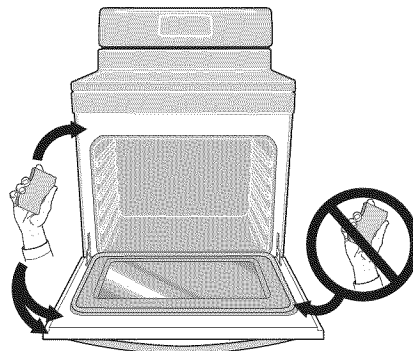

Fig. 14 Do not clean the oven door gasket
12. Wipe oven cavity and bottom. Do not clean oven door gasket (Fig. 14, on page 19).